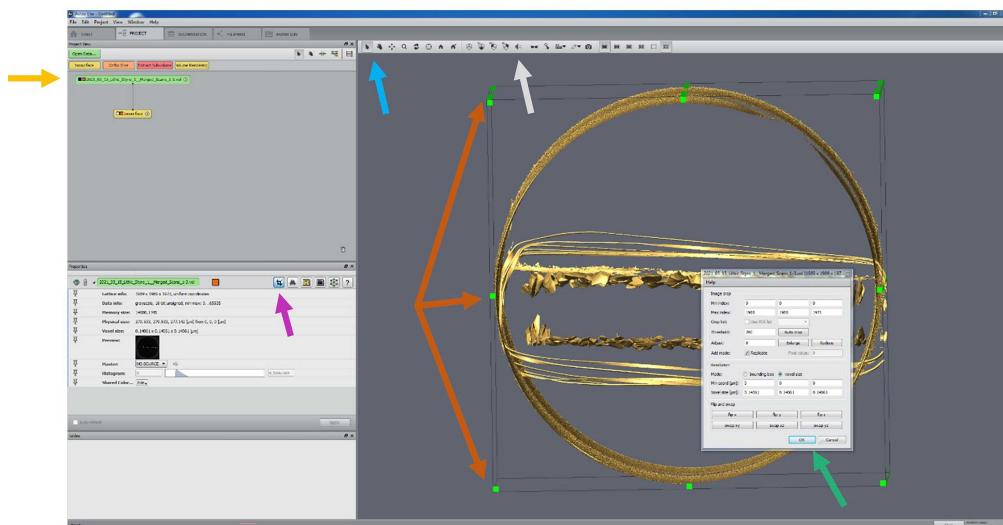

Fig. 15: Cropping process to remove outlying materials.
22.1 Select the ‘Eye’ sign in the top menu bar above the 3D viewing panel (grey arrow in Fig. 15) to switch to orthographic view (‘Eye’ sign with parallel sight lines).
22.2 Select the vol file label (yellow arrow in Fig. 15).
22.3 Rotate the 3D model into a proper position (e.g., as shown in Fig. 15) that allows for easier removal of the unnecessary outlying material.
22.4 Select the ‘Cursor’ sign in the menu bar above the 3D viewing panel (blue arrow in Fig. 15).
22.5 Select the first ‘Tool’ sign (Cropping tool) in the options bar (pink arrow in Fig. 15).
Use the left mouse button and cursor to narrow the bounding box (brown arrows in Fig. 15).
- 22.7 Apply changes to delete excluded materials with 'Ok' in cropping window (green arrow in Fig. 15).